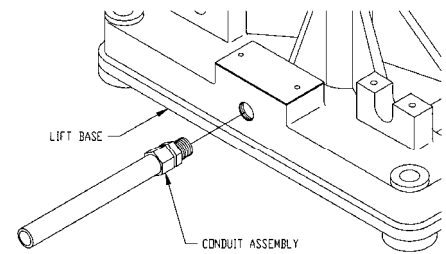

Figure 7
20. Screw the conduit assembly into the lift base. See figure 7.